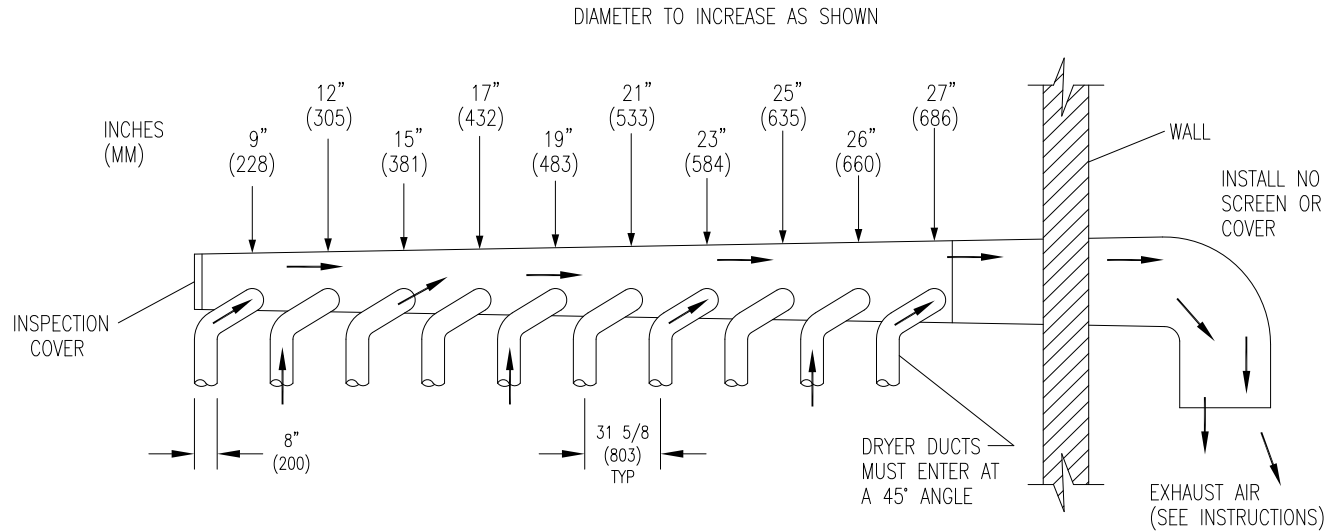

FIGURE 2- Dryer Exhausting Using A Main Discharge Duct.
6. EXHAUST INSTALLATION. (Refer to Figure 2 at the end of section 6.) Exhausting of the dryer(s) should be planned and constructed so that no air restrictions occur. Any restriction due to pipe size or type of installation can cause slow drying time, excessive heat, and lint in the room.
Installation of several dryers, where a main discharge duct is necessary, will need the following considerations for installation (see Figure 2). Individual 8" (200mm) ducts from the dryers into the main discharge duct should be at a 45-degree angle in the direction of discharge airflow.
NOTE: Never install the individual 8" (200mm) ducts at a right angle into the main discharge duct. The individual ducts from the dryers can enter at the sides or bottom of the main discharge duct. Figure 2 indicates the various round main duct diameters to use with the individual dryer ducts. The main duct can be rectangular or round, provided adequate airflow is maintained. For each individual dryer, the total exhausting